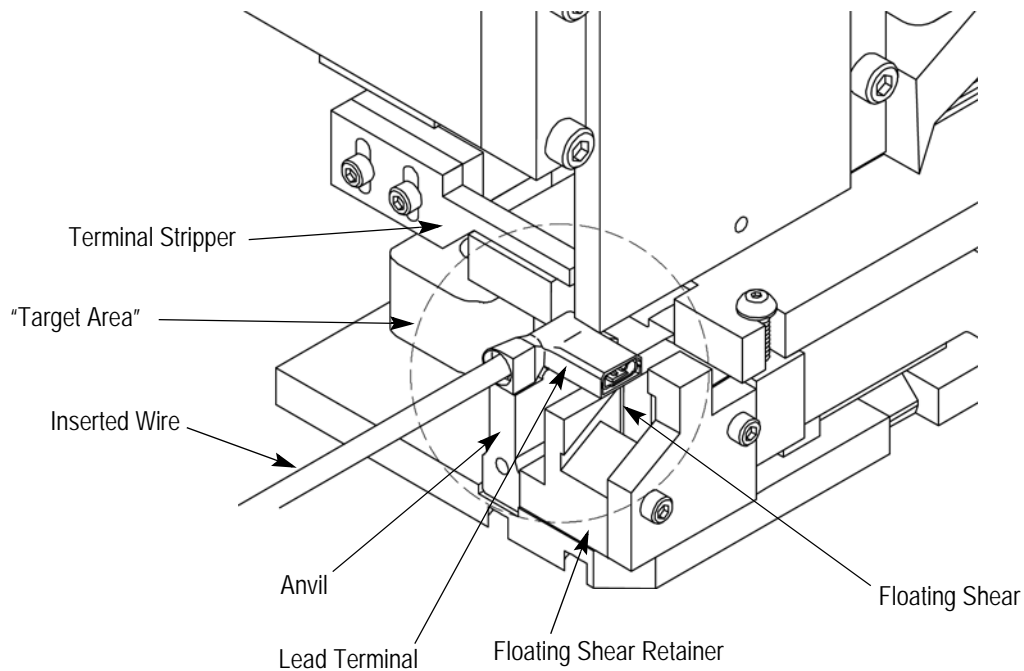

Figure 4
The applicator mounting surface is the base plate which supports the lower tooling and strip guide plate. The lower tooling is the anvil and floating shear (Figure 4). The strip guide plate supports the front and rear strip guides and the stock drag. The base plate is secured to the machine base mount.
5.2. Terminal Strip Feed Adjustment (Figure 4)
5.3. Floating Shear Adjustment (Figure 4)
7.3. Floating Shear and Shear Holder Replacement (Figure 4)